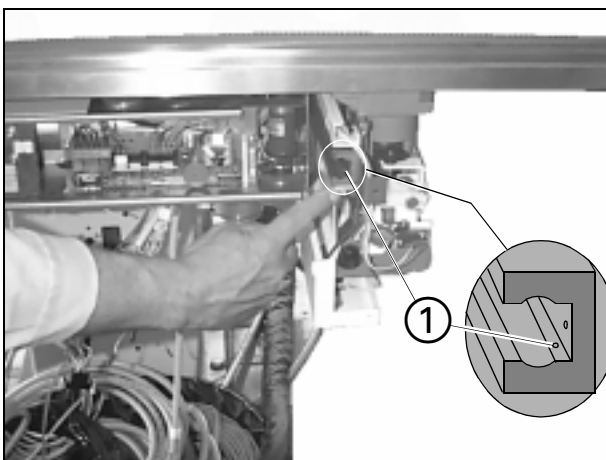

Fig. 16
- Before installing the covers, remove the attachment screw 4 x 20 mm (1/Fig.16) used earlier to secure the ball bearing race.